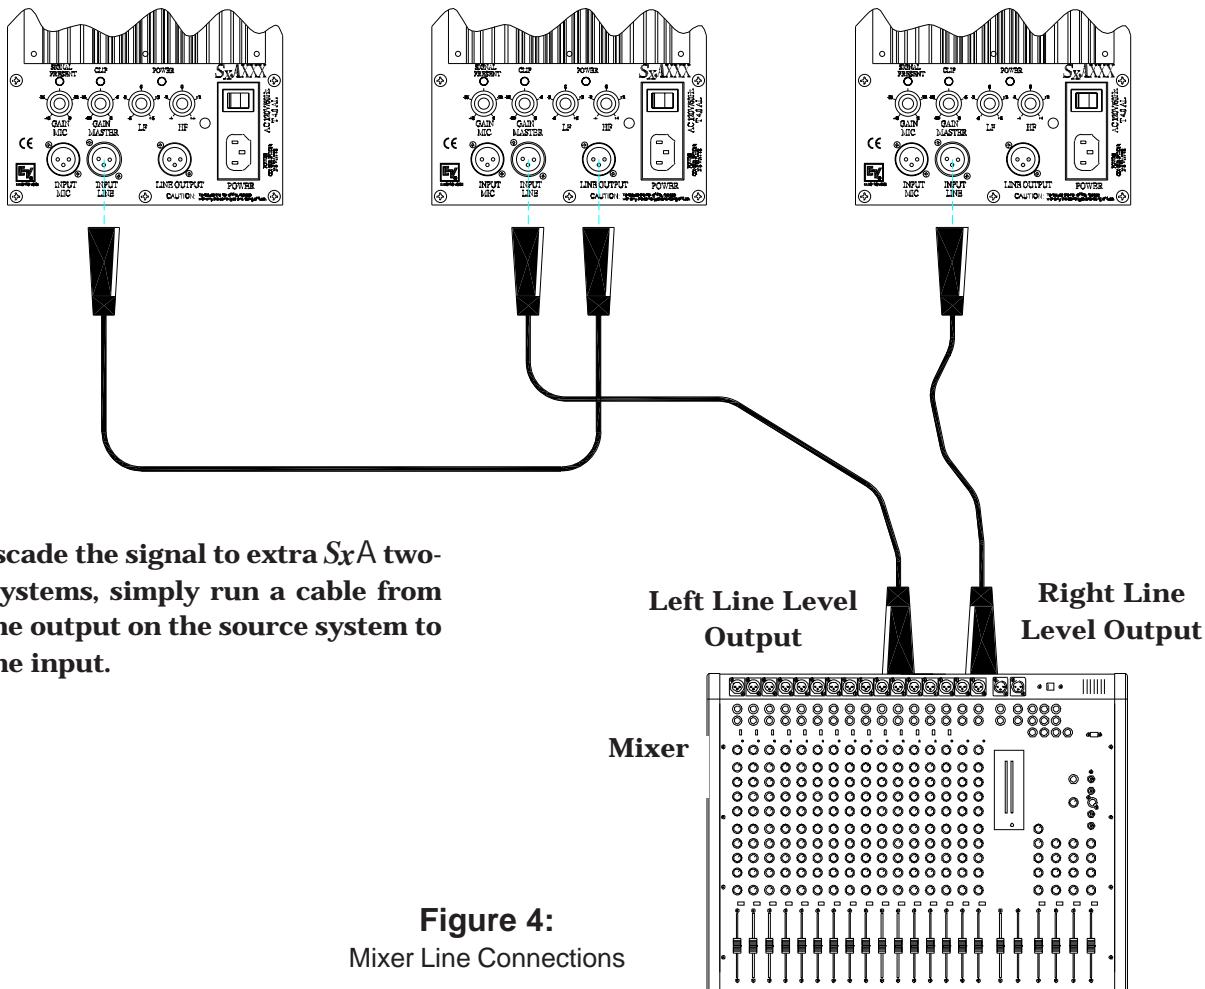

**Figure 3:**
- Plug a microphone into the microphone input connector (See Figure 3). It will only accept low-impedance dynamic microphones terminated with a standard 3-pin XLR-type connector. Turn the gain control clockwise until the signal present LED stays on with the input signal at normal operational level. Adjust the master gain control to the desired overall output level.